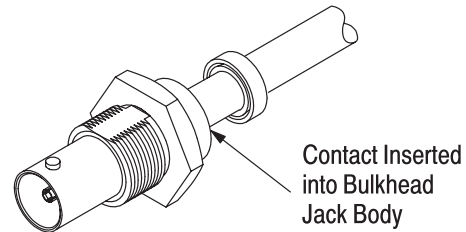

Figure 6
5. Insert contact into bulkhead jack body until the contact snaps into place. See Figure 6.